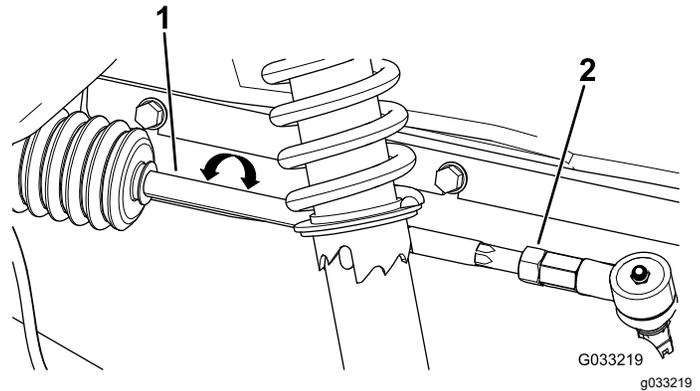

Figure 50
1. Loosen the jam nuts at the outer end of the tie rods (Figure 50).